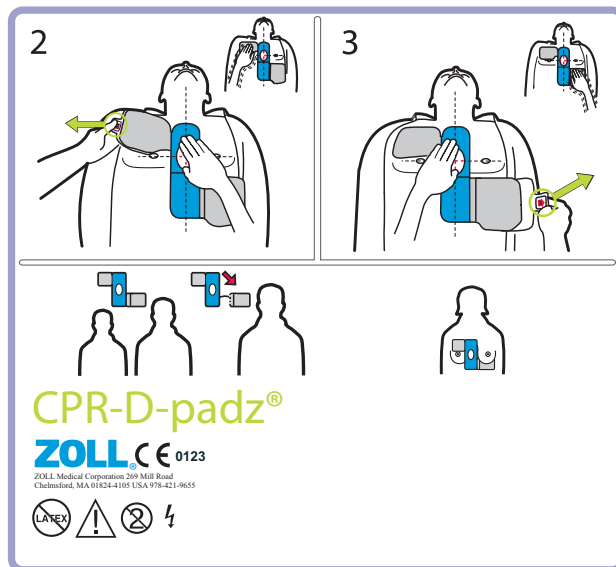

Figure 5: Placement of CPR-D-padz
1. Tear open the electrode package and unfold the electrodes. Place the electrodes on the victim according to the graphics on the package (see Figure 5).
**NOTE** If the victim is large or there is a need to place the electrode under a breast, you may need to tear away the lower pad at the perforated line (see Figure 5) and extend the pad. Place the pad slightly to the victim's left and below the victim's left breast.